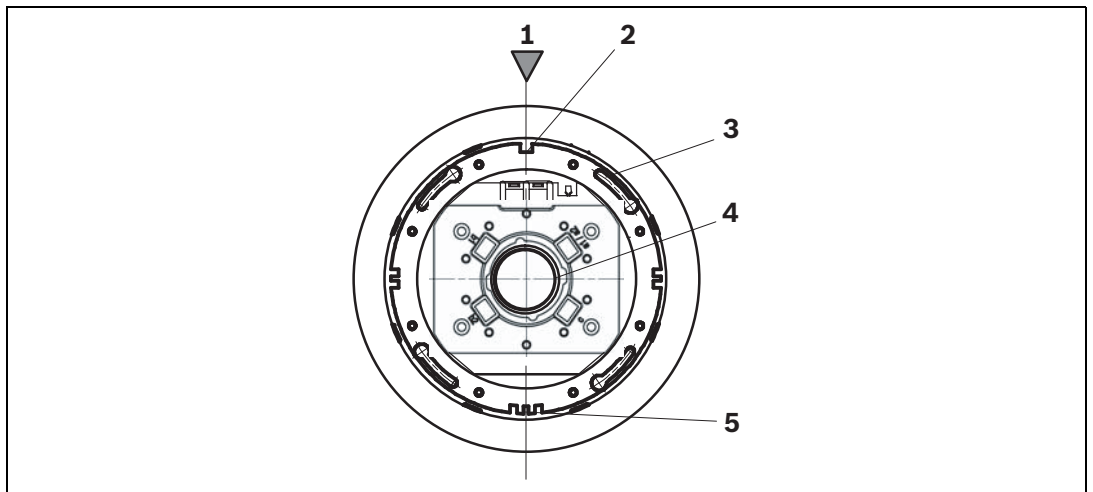

Figure 3.7 Placing the base in the ceiling mount back box
1. Place the base in the ceiling mount back box so that the marking on the backbox (see *Figure 3.7 (1)*) coincides with the single guide-groove on the base **(2)**.